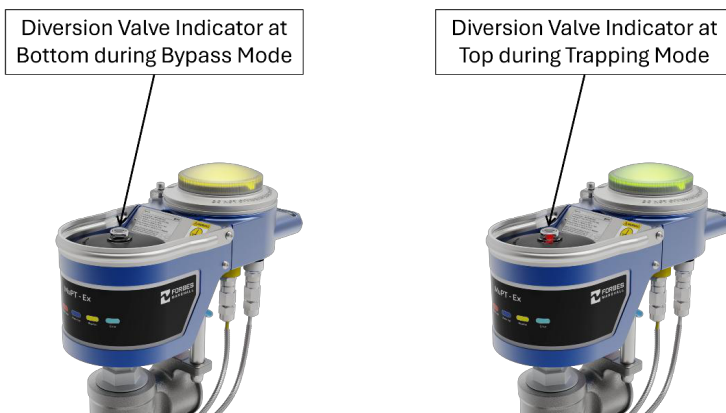

Fig.7.5
- 1) Remove the drain plug (1) from the trap cover.
- Disconnect the pneumatic pipe (4) that runs from the solenoid outlet (3) to the actuator NC port inlet (5) and place it in a clean area.
- Remove the pneumatic supply pipe from the solenoid inlet (2) and connect it directly to the actuator NC port inlet (5).
- This will activate the actuator, putting the product in trap mode, which can be verified by the red indicator pin being in the topmost position (refer fig 7.5).
- 6) Disconnect the pneumatic pipe from actuator port (5) and reconnect it to the solenoid inlet (2). Reconnect the pneumatic tube (4) from the solenoid outlet (3) to the actuator NC port (5).
- 9) Then apply Loctite 577 to drain plug (1) and reinstall the drain plug (1).